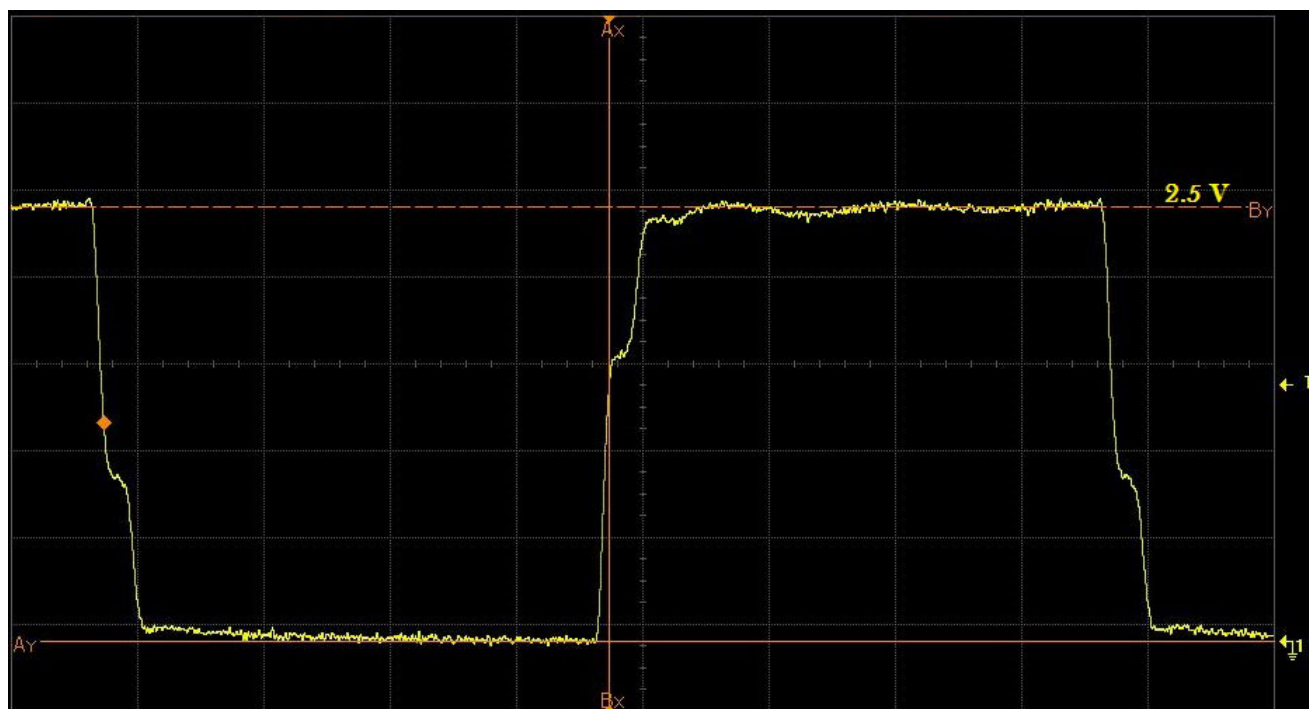

Figure 4. Rev A Device (75 Ω Driver) into 50 Ω Trace
- Figure 4—Rev A device (2.5 V, 75 Ω driver) driving a 50 Ω trace.
Note that the first two waveforms look ideal, but in the case of the 75 Ω driver into a 50 Ω trace, there is a stair-step at approximately 70% of the positive edge (and about 30% of the negative edge). This is due to reflections caused by the driver-to-trace mismatch. Some amount of reflection is acceptable, but reflection that causes a stair-step in the logic transition zone, as is the case in Figure 4, add to the uncertainty of the transition zone resulting in higher jitter than expected. If jitter is a concern in your application, please follow the impedance matching guidelines in the preceding sections.